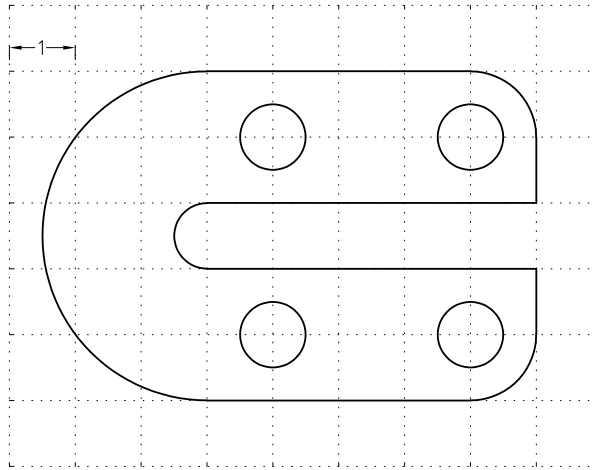

Figure 3-12 Drawing for Exercise 3
- Draw the profile shown in Figure 3-12. Create the curves by using the **Start, End, Direction** tool. The distance between the dotted lines is 1.0 unit and the diameter of the circles is 1 unit.